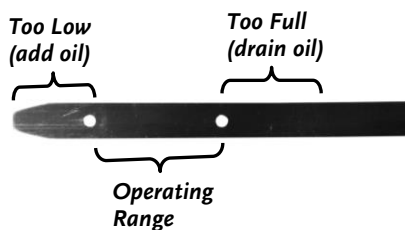

Figure 22a: Pro-475
4. If the oil level is low, continue adding a few ounces of oil at a time, rechecking the Dipstick until the oil reaches the fill mark (**Figure 22a and 22b**). Be careful not to overfill.